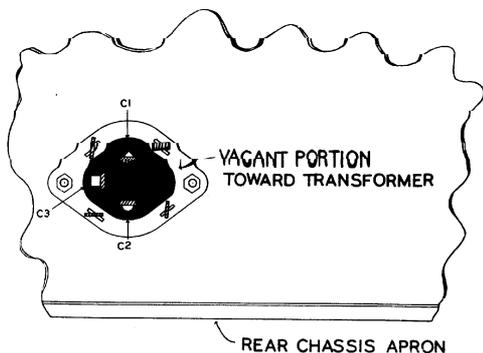

Fig. 1
- (✓) 3. Install the condenser mounting wafer at C using 6-32 hardware. Observe the insulating board at the base end of the filter condenser. This board has been punched with identifying cutouts adjacent to each terminal; a semi-circle, a square, and a triangle. Insert the four lugs on the condenser case through the slots in the metal wafer, with the terminals in the right position. Using long nose pliers, twist each of the four case lugs about one-eighth turn, securing the condenser firmly to the wafer. See Figure 1.